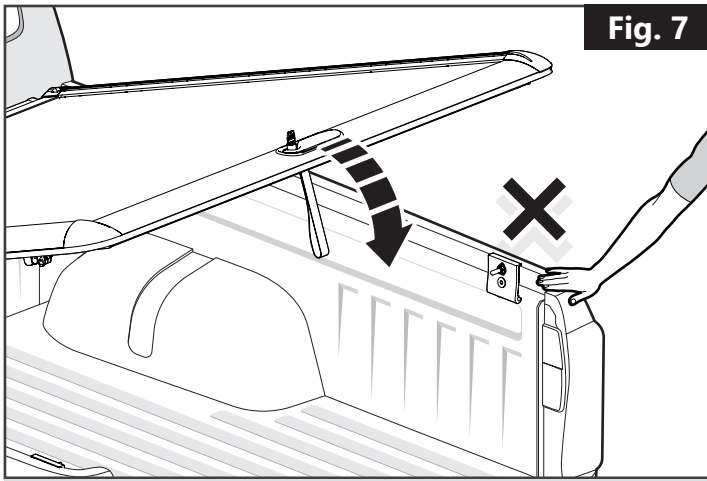

Fig. 7
- Remove fingers from truck bed when closing the cover. **(Fig. 7)**